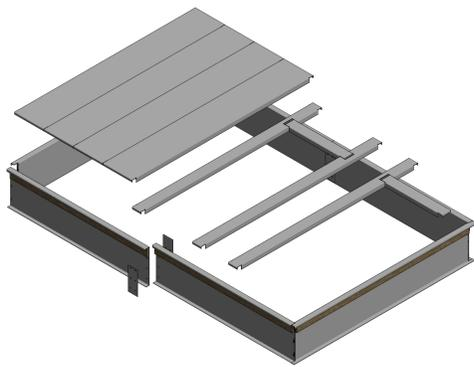

Figure 1
4. Install duct support pieces per Figure 1 and Figure 2.